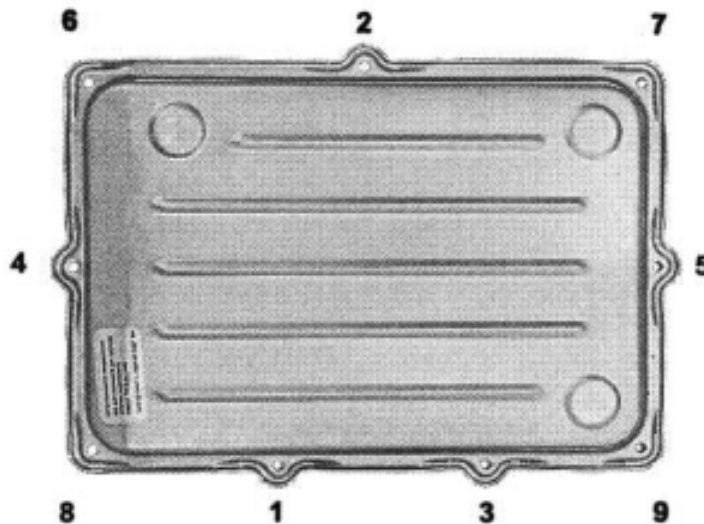

Figure 8.61 Tightening sequence of oil pan bolt
- f. Make the installation of oil bottom shell is proper for transfer case and the tighten the safety valve according to the specification and sequence (Refer to Figure 8.61). do not distort it.